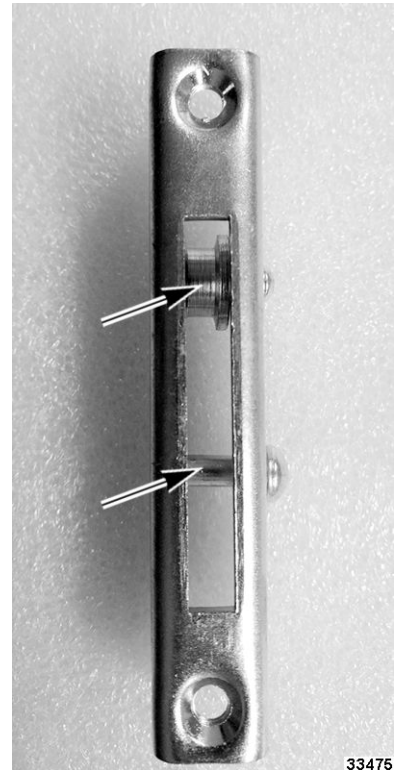

Fig. 37
- B. Release spring loaded hinge from the roller and pin inside the slot (Fig. 37) on door hinge stop to remove door.
NOTE: Fig. 37 shows bracket with pin and roller inside slot not mounted in oven frame for clarity.